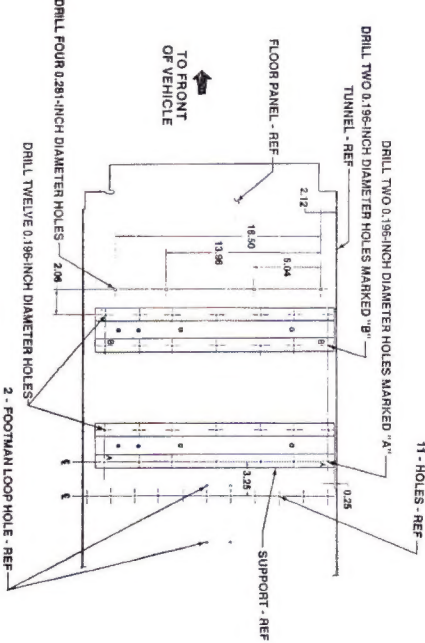

FIGURE 2
- I. USING FRONT SUPPORT AS A TEMPLATE, LOCATE AND MARK POSITIONS FOR TWO HOLES (MARKED "B") AS SHOWN IN FIGURE 2.
- K. AT LOCATIONS MARKED "B" IN STEP "I", DRILL TWO 0.196-INCH DIAMETER HOLES THROUGH FLOOR PANEL AS SHOWN IN FIGURE 2.
- M. USING SUPPORT AS A TEMPLATE, DRILL TWELVE 0.196-INCH DIAMETER HOLES THROUGH FLOOR PANEL AS SHOWN IN FIGURE 2.
ENSURE RIVETS ARE NOT INSTALLED INTO FOOTMAN LOOP HOLES AS SHOWN IN FIGURES 2 AND 3.
- V. LOCATE, MARK, AND DRILL FOUR 0.281-INCH DIAMETER HOLES IN FLOOR PANEL AS SHOWN IN FIGURE 2. CLEAN ALL DEBRIS FROM FLOOR PANEL.